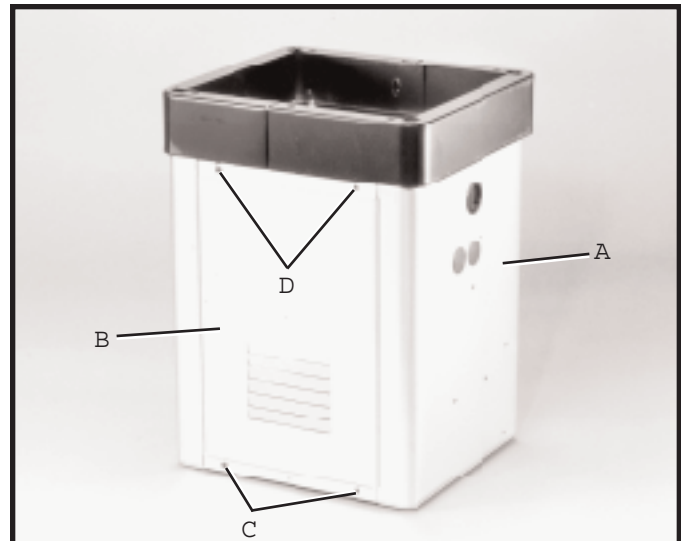

Fig. 9
1. Remove the stand (A) Fig. 9, from the shipping container being careful not to crimp the switch cord which extends through the top of the stand. NOTE: Set the stand on several blocks of wood to raise the stand off the floor surface.
2. Remove panel (B) Fig. 9, from stand (A) by removing two screws (C) and loosening two screws (D). Remove panel on opposite side of stand in the same manner.